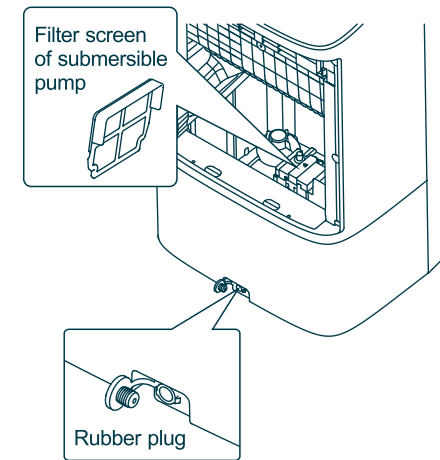

Fig.4 Integrated water tank
- 2) Pull out the filter screen: put your hands into the water tank and pull out the filter screen of submersible pump upwards (Fig.4).